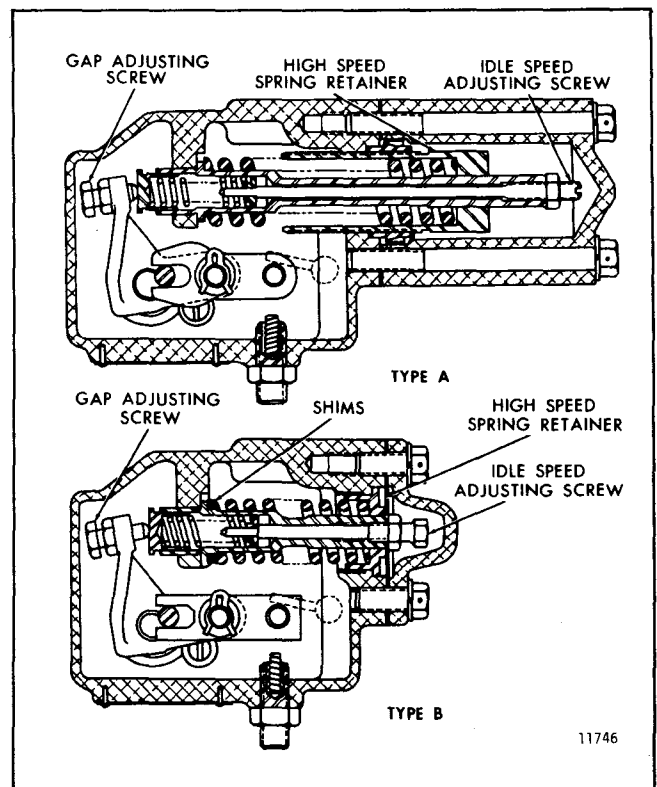

Fig. 6 - Governor Spring Assemblies
TYPE A GOVERNOR SPRINGS (Fig. 6):
TYPE B GOVERNOR SPRINGS (Fig. 6):
- b. Remove the high-speed spring from the high-speed spring plunger and add or remove shims (Fig. 6) as required to establish the desired engine no-load speed.